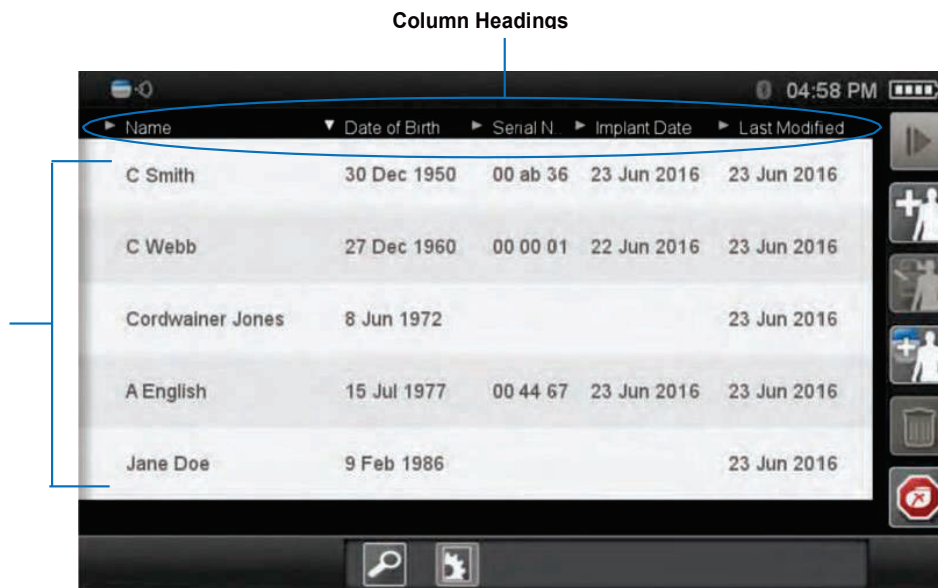

Figure 9. Select Patient screen
1. Tap  (Quick Stimulation Off) on the Select Patient screen (*Figure 9 on page 14*). A list of nearby stimulators displays.
Add patients and select patients using the Select Patient screen (Figure 9)